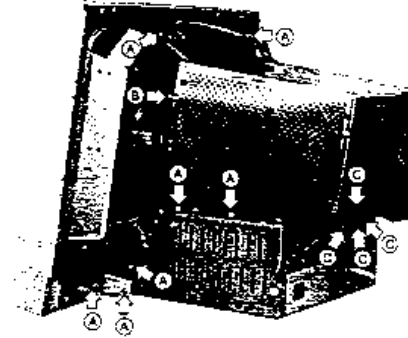

Figure 2-3 Internal Disassembly (Right side)
1. Remove the seven screws. Refer to the figure 2-3 (A).
2. Disconnect the ground wire from the top shield. Refer to the figure 2-3 (B).
3. Disconnect the five ground wires from the neck shield and top shield. Refer to the figure 2-3 (C).